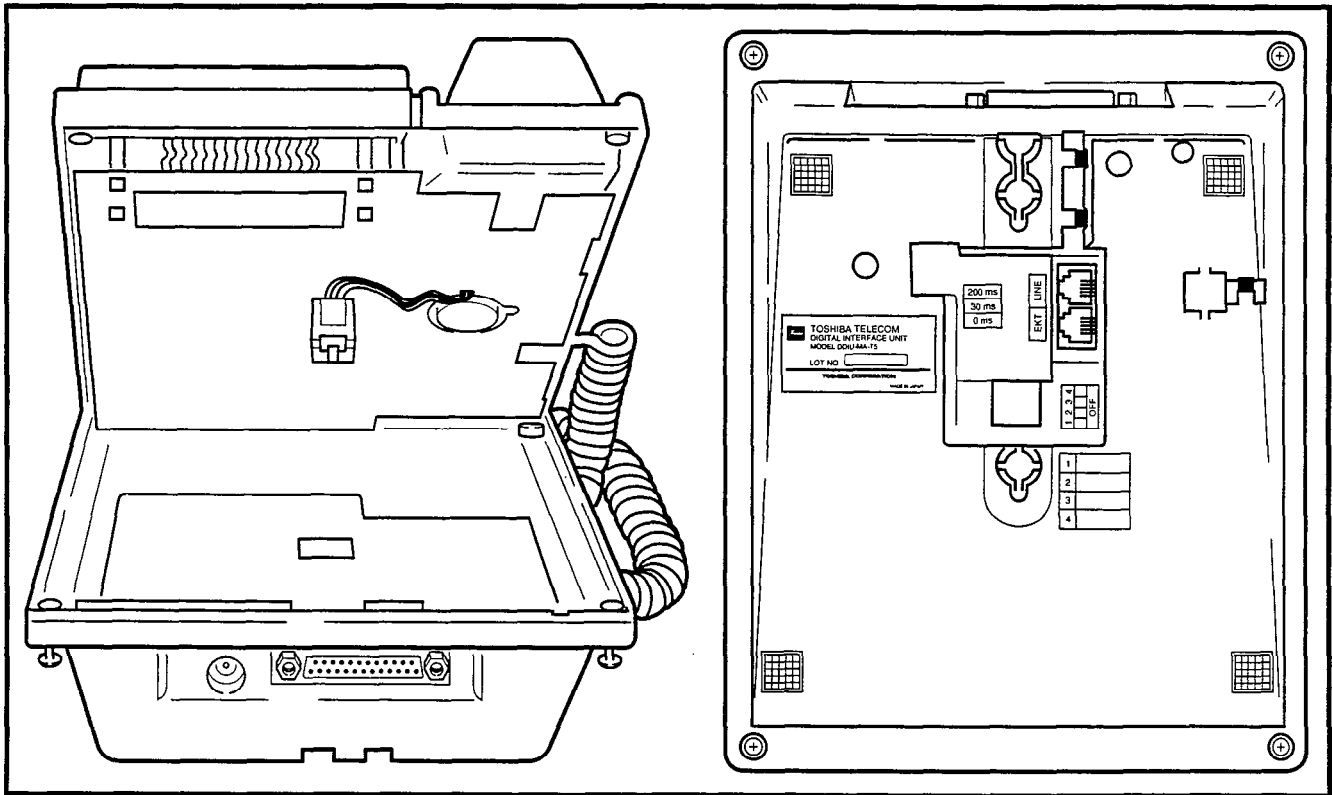

FIGURE 4-38—INSTALLING DDIU-MAT
5.81 The DDIU-MAT (Figure 4-38) mounts directly on the bottom of an electronic telephone (forming a single unit) as follows: